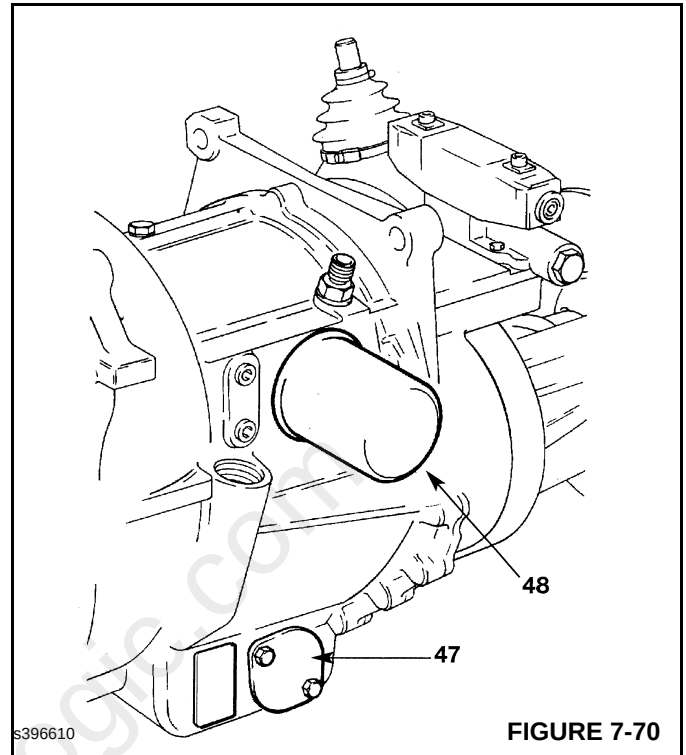

FIGURE 7-70
47. Using a new gasket, install suction strainer 47 (Figure 7-70) . Apply Loctite 242 to bolts and tighten to (7 lb ft) 10 Nm .